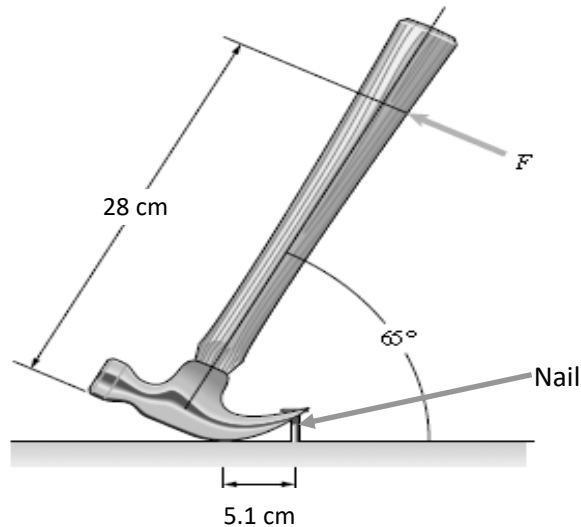

Fig. Q2
Q2. Assume that the force exerted on the head of the nail being plucked out by the hammer is vertical, and neglect the hammer's weight (**Fig. Q2**).
b) A beam ABC is simply supported at A and B and it overhangs from B to C, and is loaded as shown in Fig. Q2(b). (Take $EI = 2 \times 10^5$ MPa and $I = 1.5 \times 10^9$ mm⁴.) Calculate